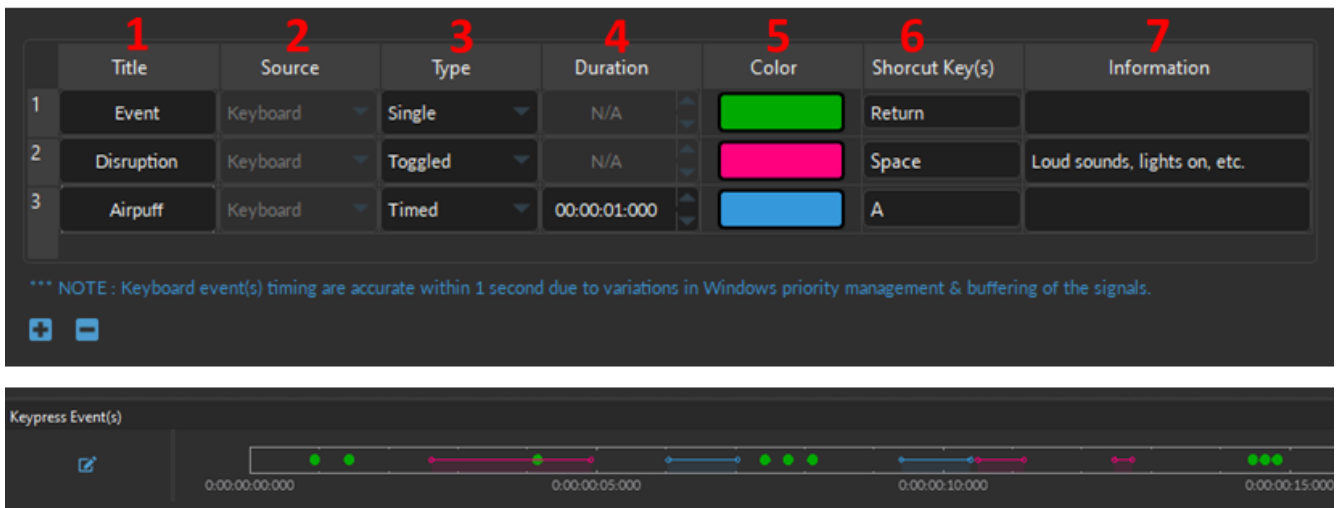

Figure 9.31: Channel(s) configuration window, Keypress Event(s)
The following are the configurable parameters of a **KeyPress Event**, per Fig. 9.31:
1. The **Title** (Fig. 9.31, 1) allows you to give a name for the Keypress event.
2. The **Source** (Fig. 9.31, 2) is by default *Keyboard*.
3. Three **Types** of Keypress Event(s) (Fig. 9.31, 3) can be specified with the drop-down list:
- The **Duration** (Fig. 9.31, 4) is only used for the **Timed** Keypress type to specify the predetermined amount of time a Keypress Event will span. The duration is set in hh:mm:ss:zzz.
- Select the **Color** (Fig. 9.31, 5) field to open the **Select Color** window. Basic colors are provided, in addition to custom colors can be created and stored.
- The **Shortcut Key(s)** (Fig. 9.31, 6) can be any keyboard key, including space bar, enter, backspace, any letters, number and special characters (*, !, ? etc.). To specify the key, click inside the *Shortcut Key(s)* cell, then press the keyboard key of choice. If a key was properly set, it will appear in the *Shortcut Key(s)* cell (as in Fig. 9.31, column 6).
- The **Information** column (Fig. 9.31, 7) provides space to make notes or write a short description of the Keypress Event.